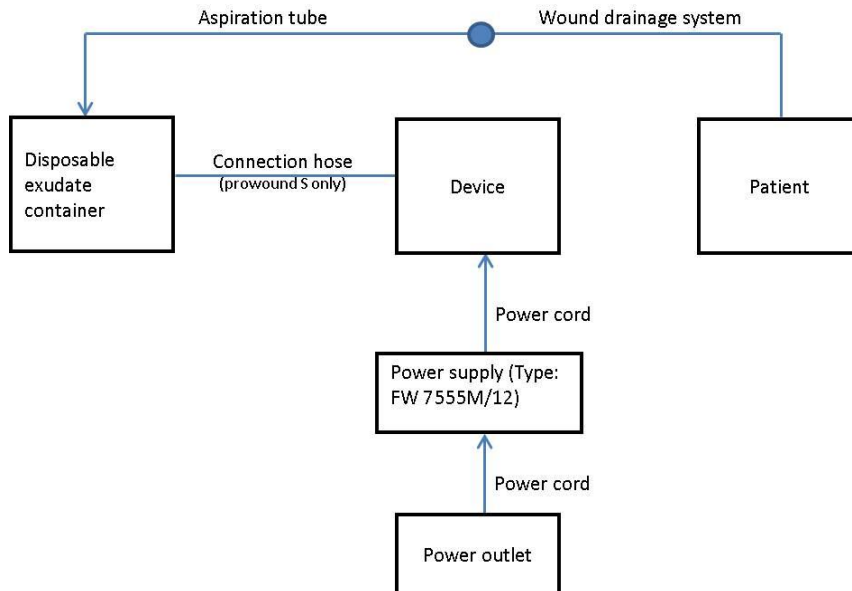

Fig. 3 Connecting the ASSKEA **proound**® M and **proound**® S to the patient and accessories
1. Remove the disposable exudate container (Fig. 3 (A)) from the packaging.
2. Slide the container on the guiding rails (Fig. 3 (E)) of the **ASSKEA proound**® M until the disposable exudate container clicks into place in the locking mechanism (Fig. 3 (B)).
1. Close the tubing clamp of the wound drainage system (Fig. 3) to maintain the vacuum in the wound.
7. Connect the aspiration tube to the wound drainage system (Fig. 3).
1. Close the tubing clamp of the aspiration tube (Fig. 3) to maintain the vacuum in the wound.